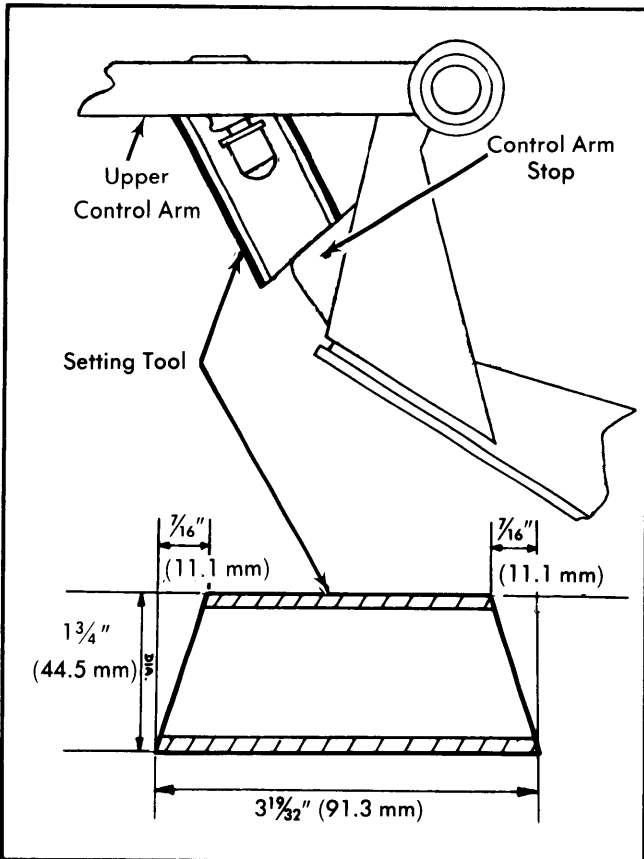

Fig. 1 Dimensions for Fabricating Setting Tools
1) Ensure vehicle is on level ground and that tires are properly inflated. Before checking or adjusting caster or camber, fabricate 2 setting tools as shown in Fig. 1.